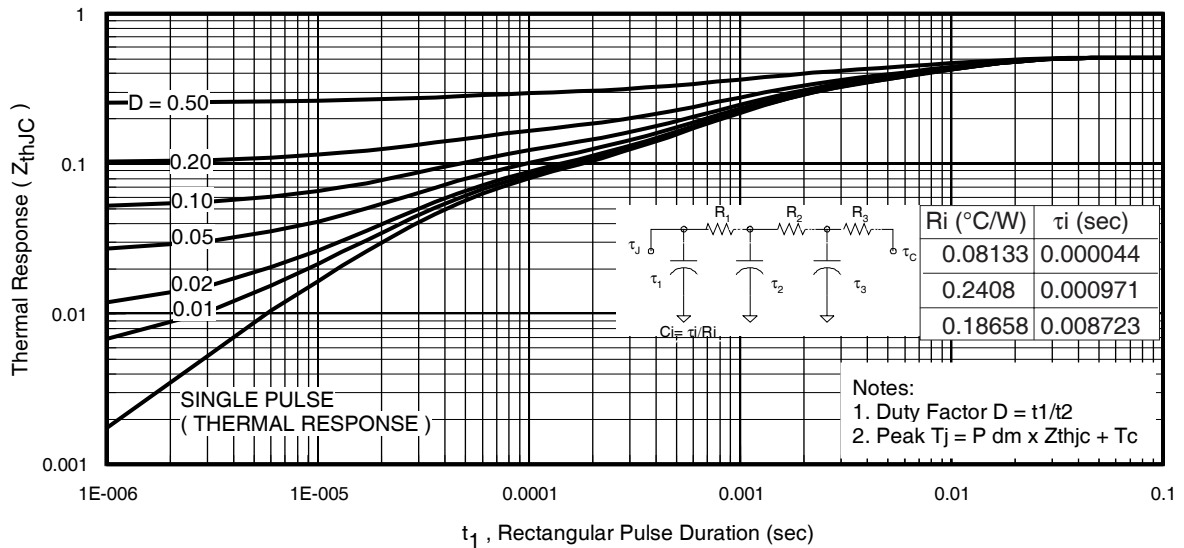
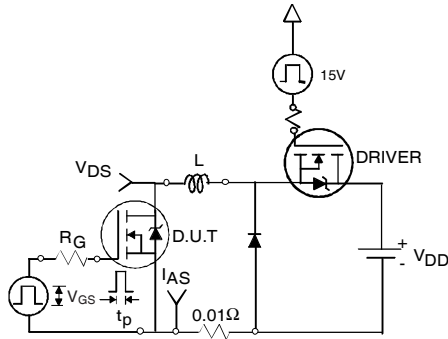

Fig 11. Maximum Effective Transient Thermal Impedance, Junction-to-Case
Fig 12a. Unclamped Inductive Test Circuit
- ① Repetitive rating; pulse width limited by max. junction temperature. (See fig. 11).
- ② Limited by T_{Jmax} ; starting $T_J = 25^\circ\text{C}$, $L = 0.10mH$, $R_G = 25\Omega$, $I_{AS} = 75A$, $V_{GS} = 10V$. Part not recommended for use above this value.
- ③ Pulse width $\leq 1.0ms$; duty cycle $\leq 2\%$.
- ④ $C_{oss\text{ eff.}}$ is a fixed capacitance that gives the same charging time as C_{oss} while V_{DS} is rising from 0 to 80% V_{DSS} .
- ⑤ Limited by T_{Jmax} , see Fig.12a, 12b, 15, 16 for typical repetitive avalanche performance.
- ⑥ This value determined from sample failure population. 100% tested to this value in production.
- ⑦ This is only applied to TO-220AB package.
- ⑧ R_θ is measured at T_J approximately 90°C
3. Equation below based on circuit and waveforms shown in Figures 12a, 12b.
$Z_{thJC}(D, t_{av})$ = Transient thermal resistance, see figure 11)